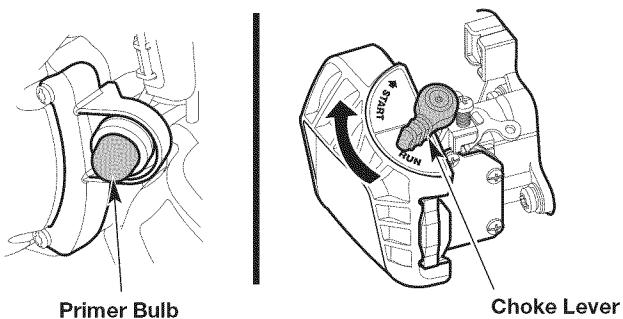

Fig. 12
3. Slowly press and release the primer bulb **10 times** (Fig. 12). If fuel cannot be seen in the primer bulb, press and release the primer bulb until fuel is visible.
5. **DO NOT** squeeze the throttle control. Flip the choke lever clockwise until it clicks into the **START** position (Fig. 12).